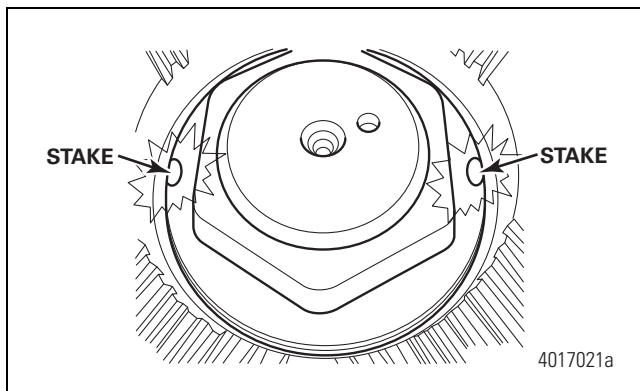

Figure 7.1
2. Use a die grinder to remove the two staking points on the retaining nut. Figure 7.1.